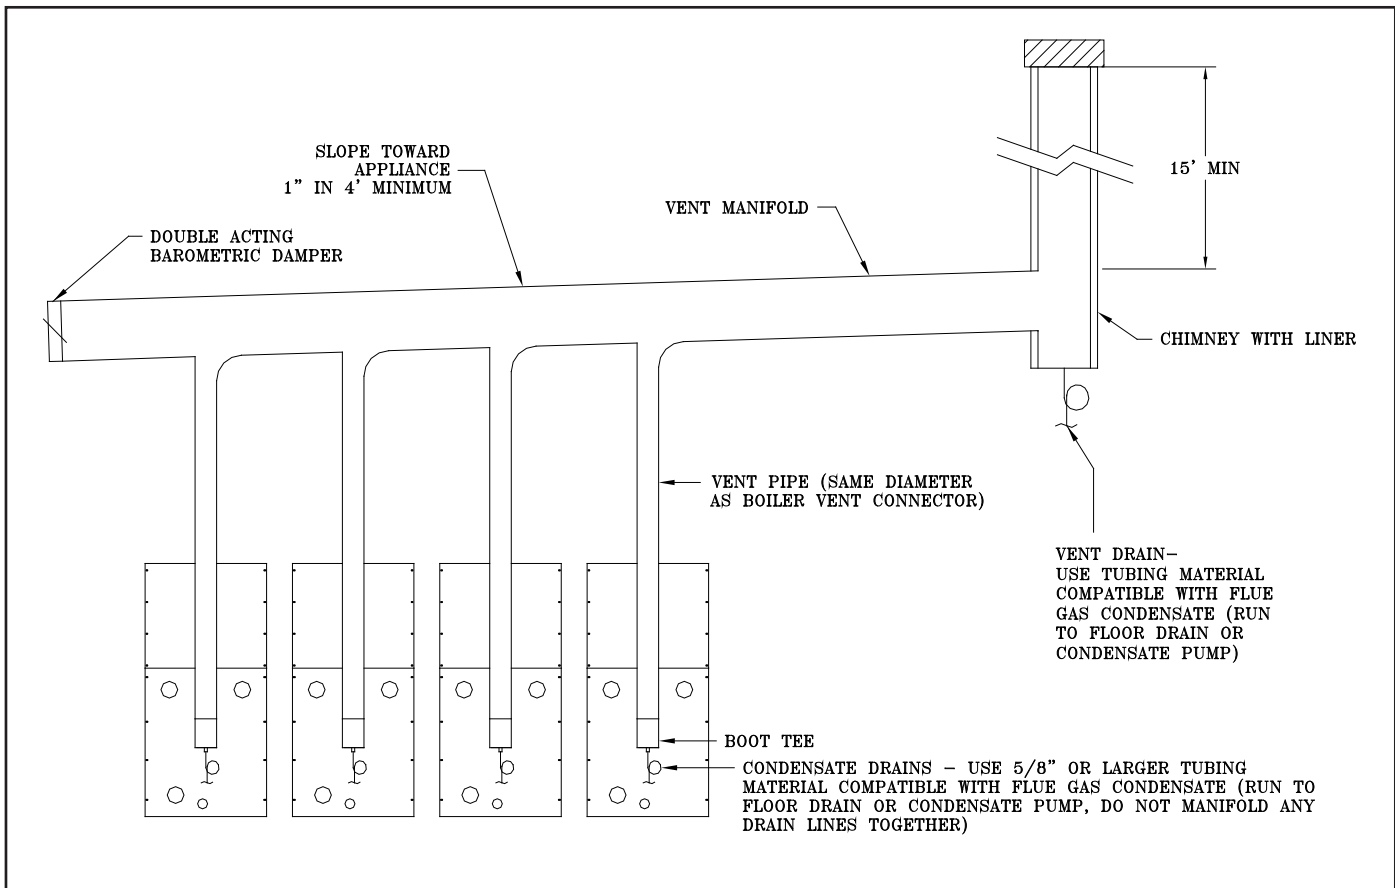

Figure 10: Modular System: Conventional Venting (Negative Pressure)
- i. Refer to Figure 10 for an example of a typical conventional venting arrangement for modular boilers.
shown in Figure 10).
- vi. Install a condensate drain to collect any condensate that may form in the lined chimney or vertical common vent (refer to figure 10).